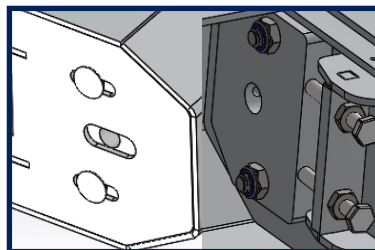
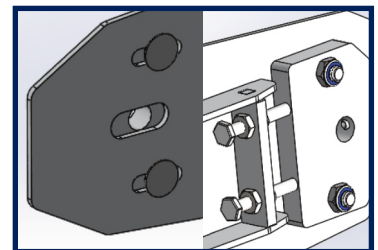

FIGURE 1C
FIGURE 1D
3. Insert the carriage bolts through the sides to fasten the tensioning blocks. Tighten them with washers and nylon lock nuts. Refer to **Fig 1C** and **Fig 1D**. Do not tighten the nuts at this point, just snug them up (they should still slide in the slots).